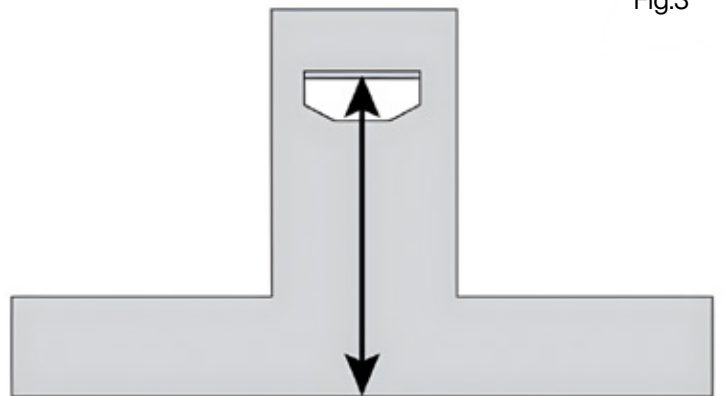

Fig.3
- Particular care is due to the grease filters. They can be removed by pushing its handle toward the back side of the rangehood and pulling the filter downwards so to unfasten it from its slot (Fig.3). To insert the filter just perform the opposite operation.